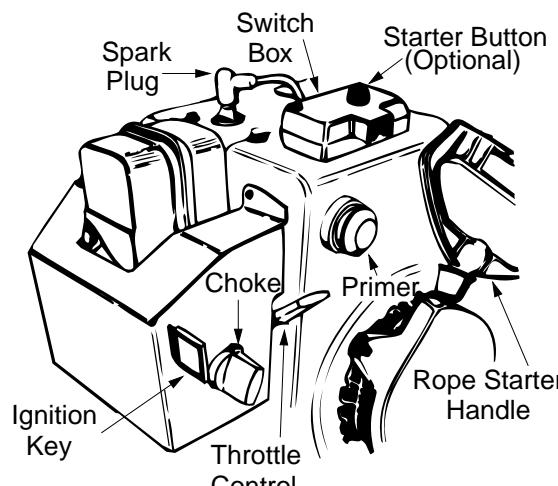

Figure 17
9. Move throttle control up to FAST position. Insert ignition key into slot. See Figure 17. Be certain it snaps into place. Do not turn key.
3. Push starter button to crank engine. See Figure 17. As you crank the engine, move choke knob to FULL choke position.
3. Push primer button two or three times for cold engine start. See Figure 17.
5. Grasp starter handle (see Figure 17) and pull rope out slowly, until it pulls slightly harder. Let rope rewind slowly.